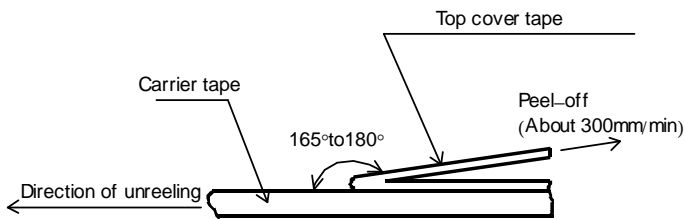
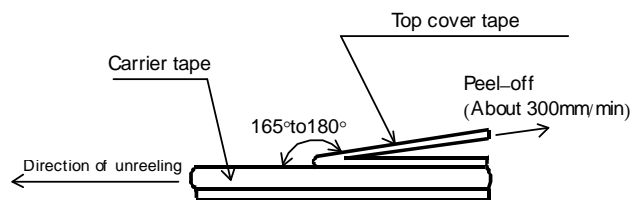

Figure-9
Figure-10
- 5). The peel strength of the top cover tape shall be within 0.1N to 0.5N on the test method as shown in the following RCC06, 10: Figure-9, RCC16,20,32: Figure-10.